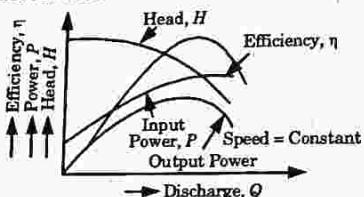

Fig. 4.25.2. Operating characteristics curves of a pump.
- Different characteristics curves are shown in Fig. 4.25.2.